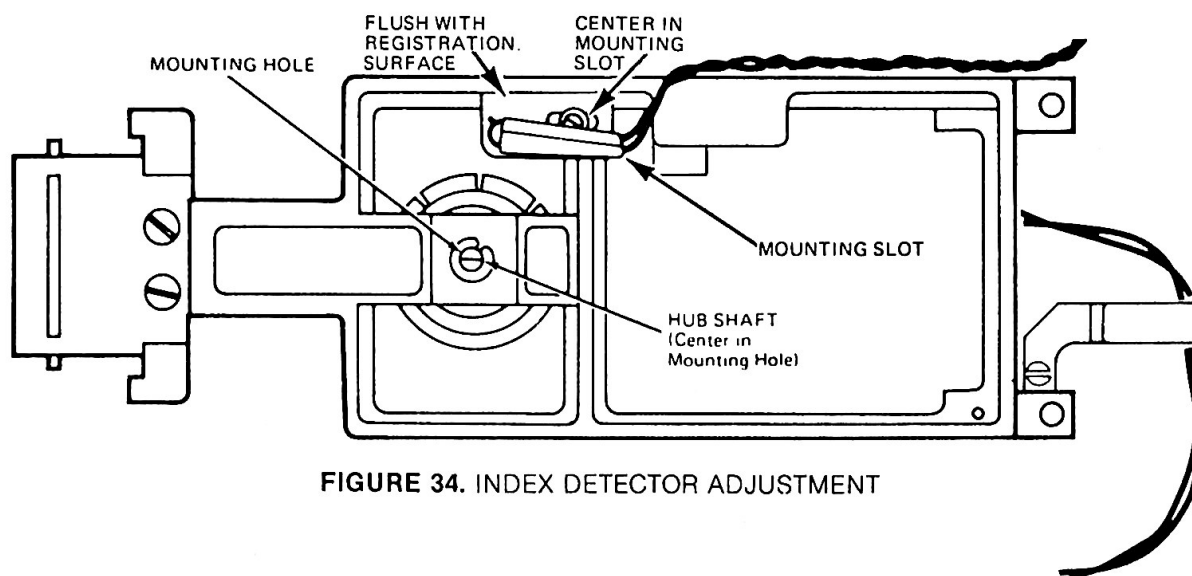

FIGURE 34. INDEX DETECTOR ADJUSTMENT
- Position the index detector assembly flush with the registration surface on the hub frame. Reference Figure 34.
- Position the detector assembly in the center of its mounting slot. Tighten the mounting screw. Reference Figure 34.